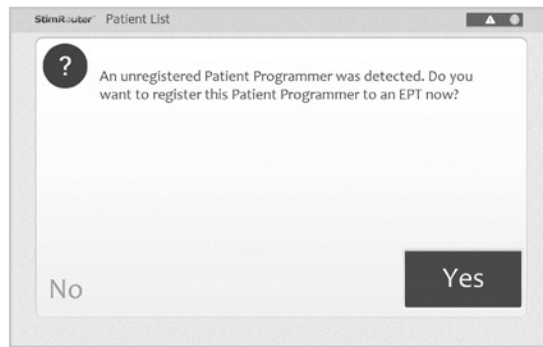

Figure 13-1: Unregistered Patient Programmer detected
7. The StimRouter software will detect the unregistered Patient Programmer and ask whether you want to register this Patient Programmer to an EPT now. See Figure 13-1.